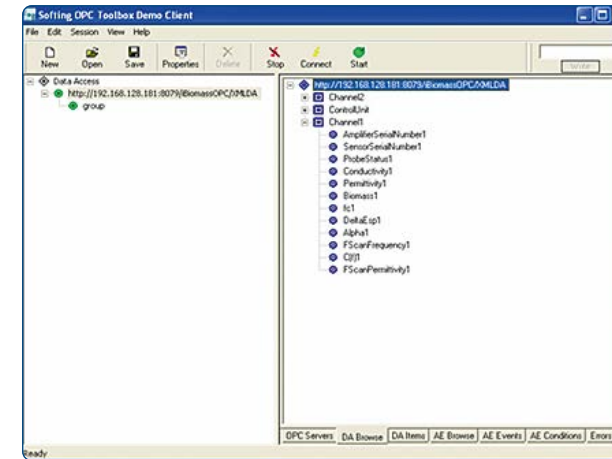

Figure 67: Data selection in the DA Browse tab.
4. Select the DA Browse tab to do the data selection (Figure 67).